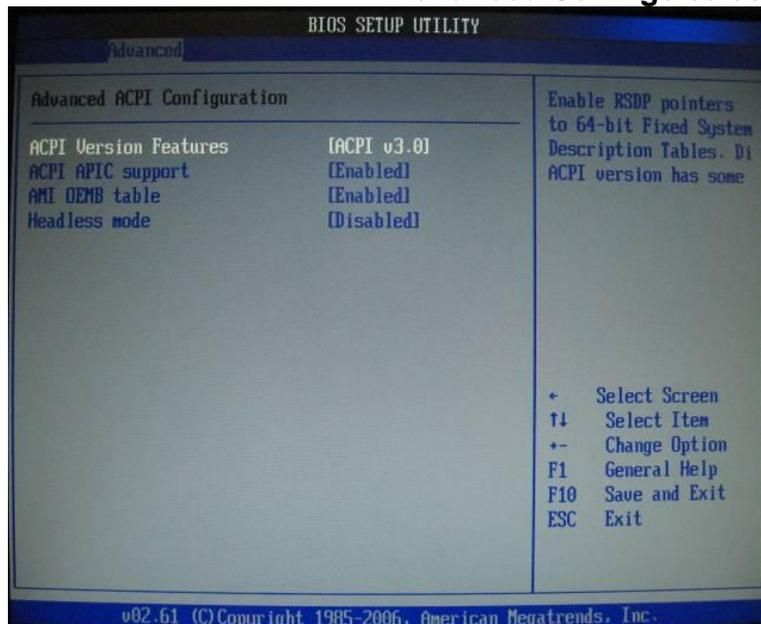

Figure 8-24 ACPI Configuration Page
14. On the **ACPI Configuration** Page, change **Power Supply Shutoff** to **[Auto]**. (Figure 8-24). Then press **Escape** to return to **Advanced Settings** screen.